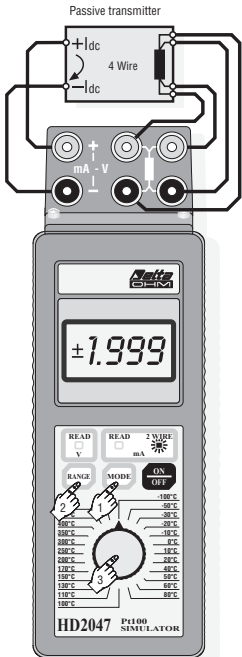

Fig. 3 Testing a Pt100 input passive transmitter
Procedure (see fig.3):
- perform the connection as reported in figures 3, 4 or 5 according to the number of wires;